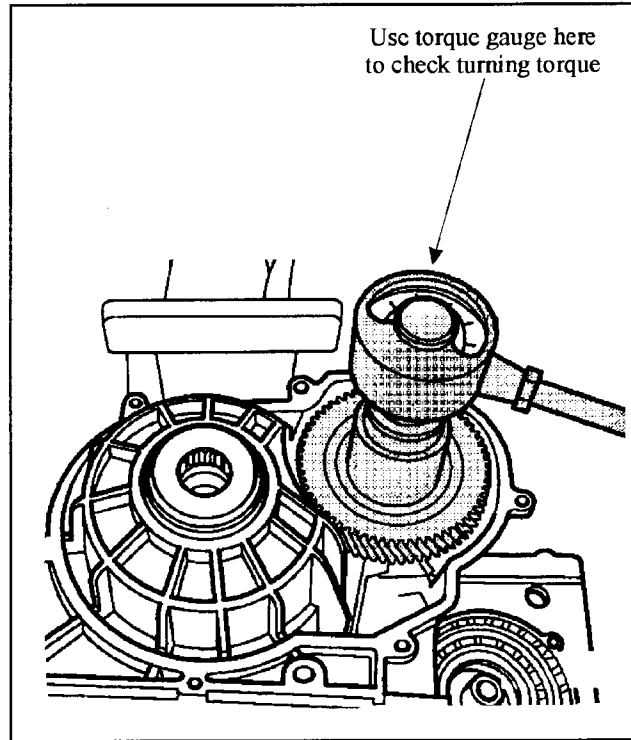

Figure 119
2. The turning torque for new tapered roller bearings on the transfer driven gear should be between (7.1 and 10.6 in.lb.) (See Figure 119).